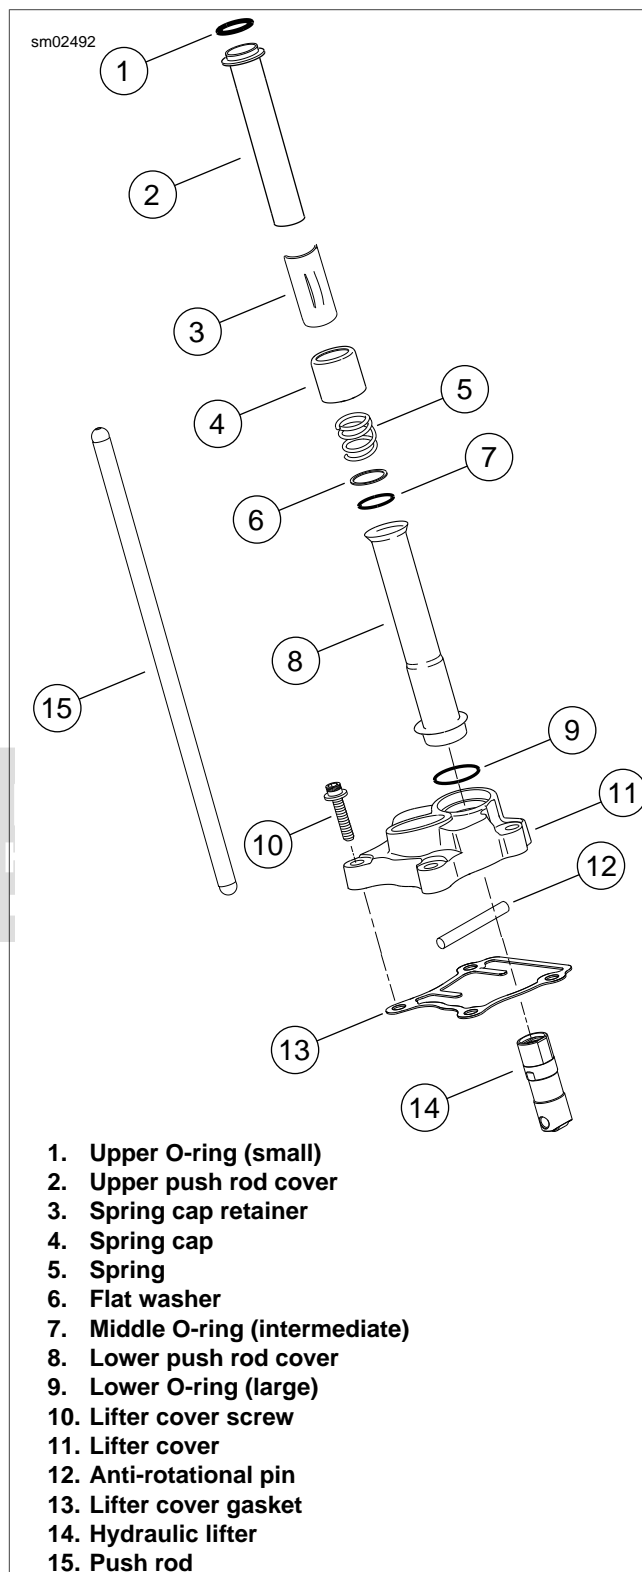

Figure 3-78. Push Rods, Lifters and Covers
See Figure 3-78. With the exception of the lifter covers, all parts should have been disassembled and marked during the removal procedure. Disassemble the lifter covers as follows:
1. See Figure 3-78. Scrape old gasket material from the lifter cover (11) flange. Old gasket material left on mating surfaces will cause leaks.
2. With the exception of the hydraulic lifters (14), clean all parts in a non-volatile cleaning solution or solvent. Verify that the o-ring seats and contact surfaces of the push rod covers (2, 8) are completely clean.